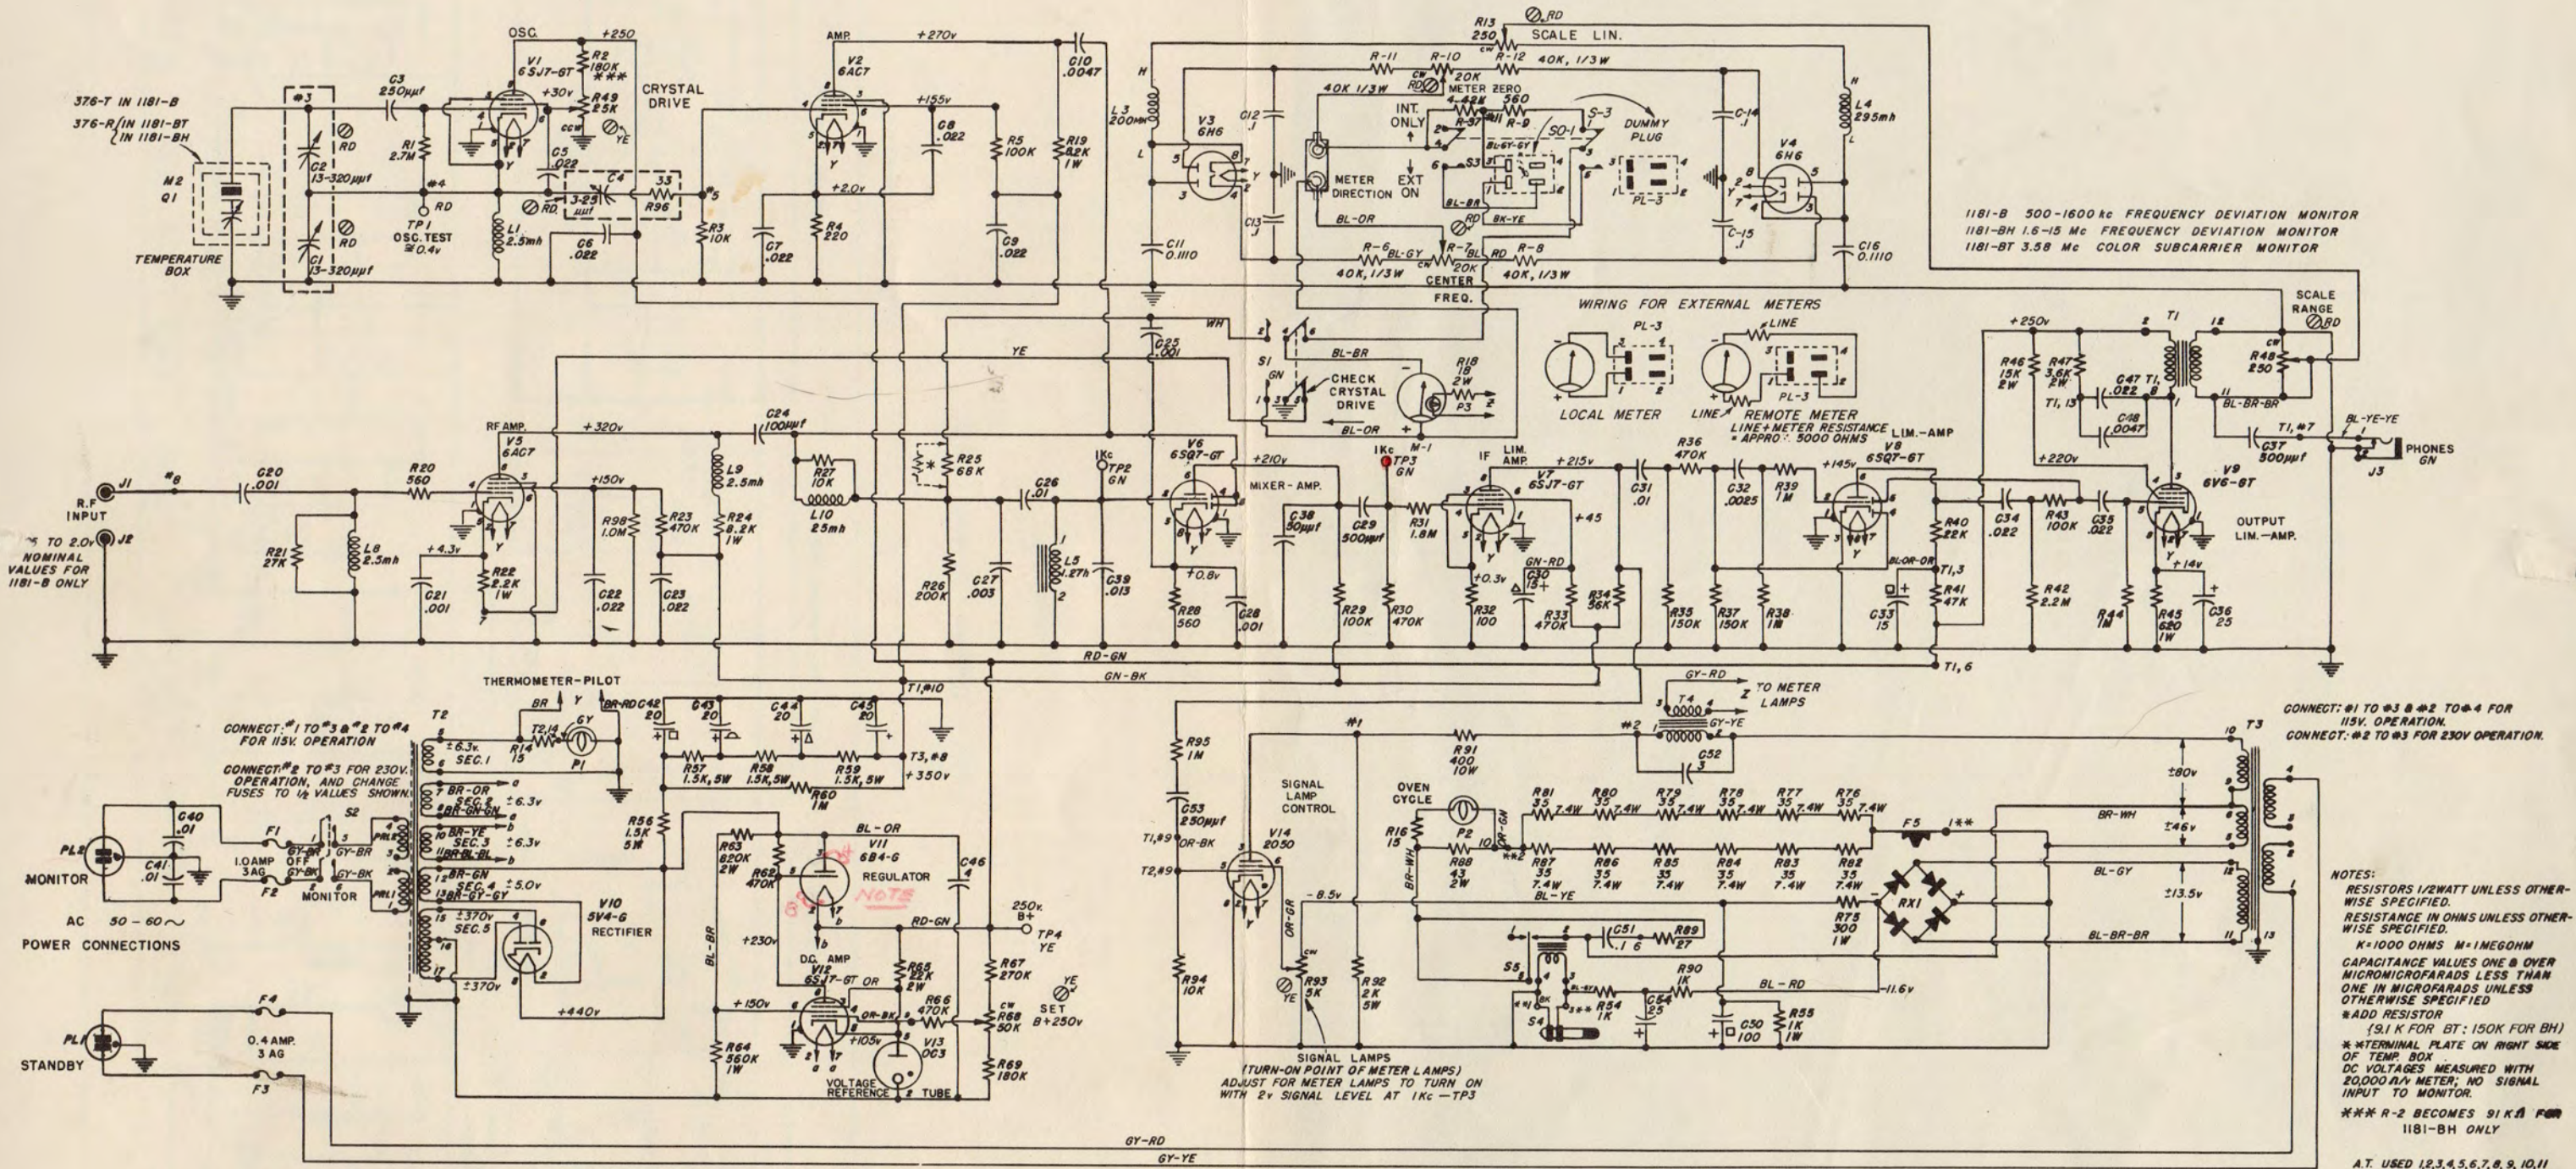

Figure 7. Schematic Diagram.
c. Check V14 and operating voltages against Figure 7. Ground pin 6 temporarily; signal lamp will light if V14 is normal. Check circuit operation by grounding pin 3 temporarily.
e. Check V1, V2, V5, V6, and V7 and operating voltages against Figure 7.
(3) Check the oscillator output at TP1. This should be approximately 0.4 volt as measured with a vacuum-tube voltmeter.
(4) If the voltage at TP1 is low or erratic, either the quartz crystal or V1 may be defective.
a. Check voltages at V10, V11, and V12 against Figure 7.
6.2 TYPE 1181-BT MONITOR. The Type 1181-BT Color Subcarrier Monitor for 3.58 Mc incorporates minor component changes similar to those in the Type 1181-BT, as noted on the schematic diagram, Figure 7. The crystal used is a Type 376-R.